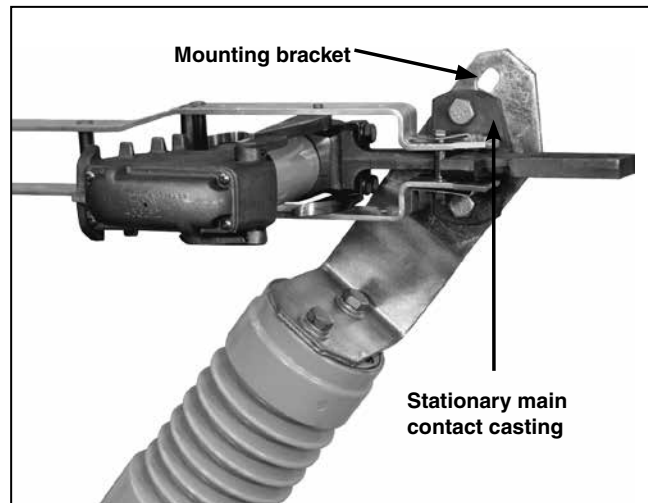

Figure 40. Adjusting the stationary main contact casting position.
- (g) It may be necessary to loosen the bolts that fasten the stationary main contact casting to its mounting bracket and slightly rotate the casting to achieve the necessary clearances. See Figure 40. Retighten the bolts, making sure the blade engages the stationary contact on-center.